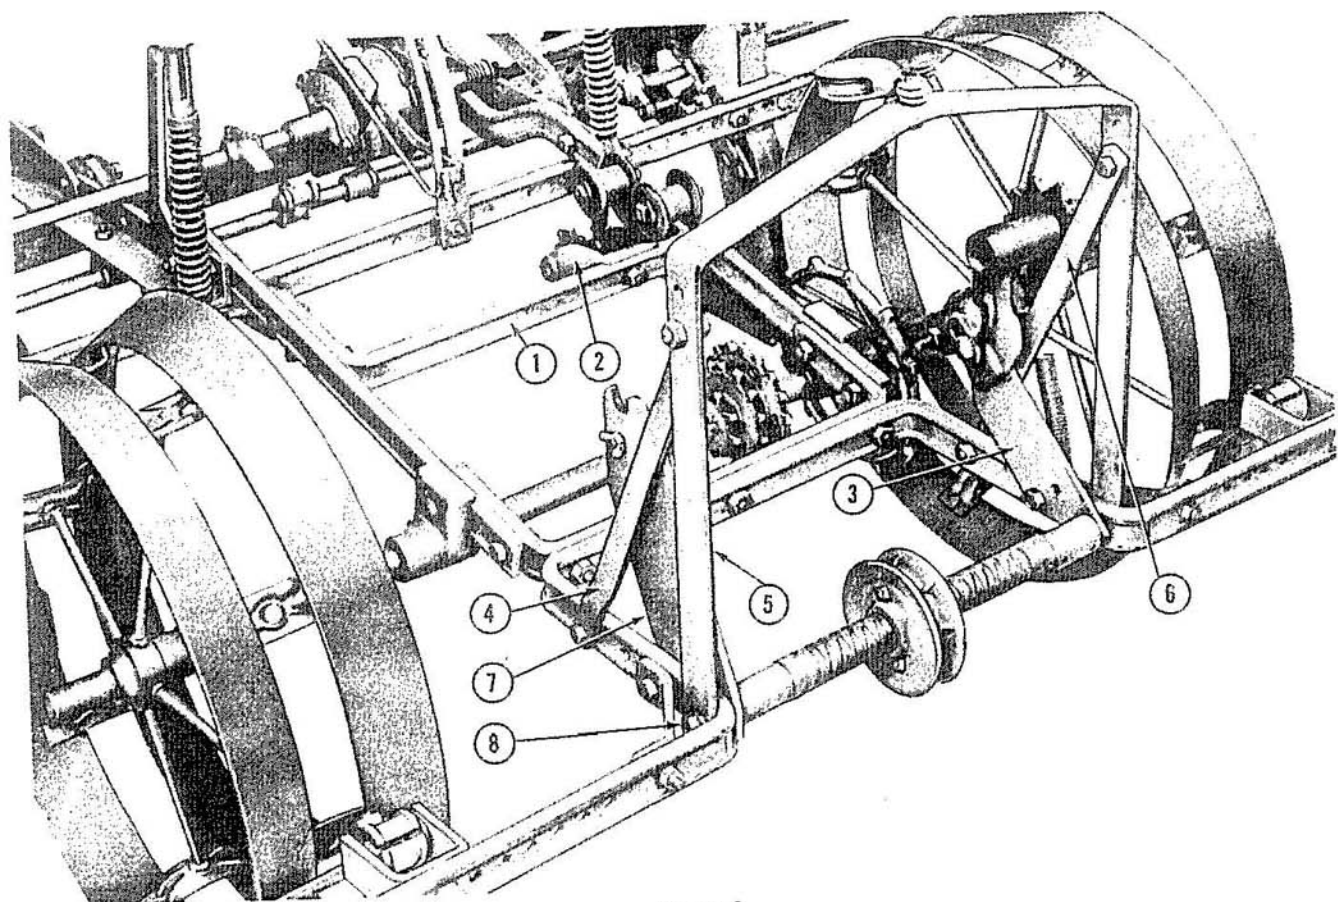

Figure 3
7. Remove the diagonal braces, nut and lockwasher from each end of the long bolt (8), Figure 3. Slide the bolt to the left and position the right hand reel support (3) and the right side of the marker pulley arch (5) on the bolt as shown. Slide the long bolt to the right and position the left hand reel support (7) and the left side of the marker pulley arch on the long bolt. Center the bolt and secure both ends with the lockwashers and nuts provided.
8. Replace the diagonal braces and secure the forward end of the reel supports (3) and (7), Figure 3, to the scraper frame as shown.
9. Attach the forward end of each marker arch brace (4) and (6), Figure 3, to the front holes of the scraper frame as shown with the bolts, lockwashers and nuts provided.
10. Attach the chain idler bracket (2), Figure 3, to the rear frame cross member (1) with the bolt, lockwasher and nut provided.